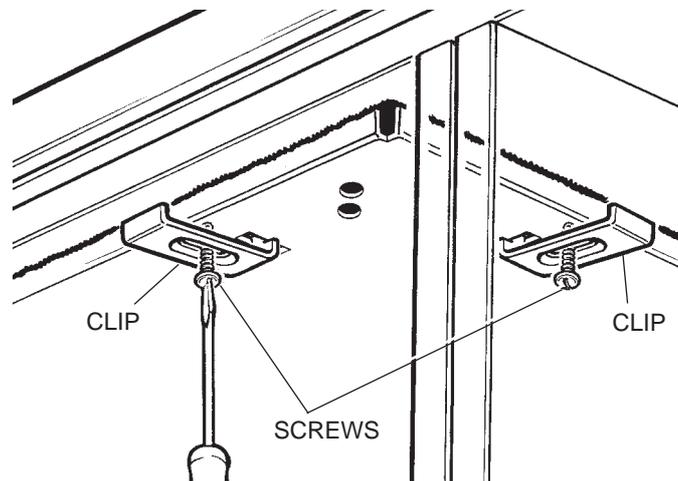

Figure 7
7. Turn the clips, making sure that the clips grip the worktop, and then tighten the screws (Figure 7).